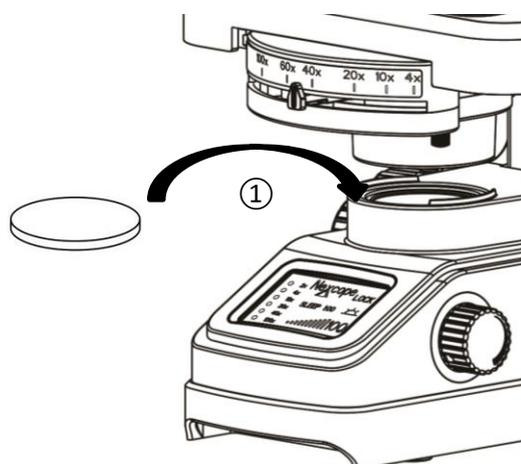

Fig.5
3-2-5 Install the Filter (Fig.5)
Put the filter in the seat of illuminator according to the path ① shown in Fig.5 .